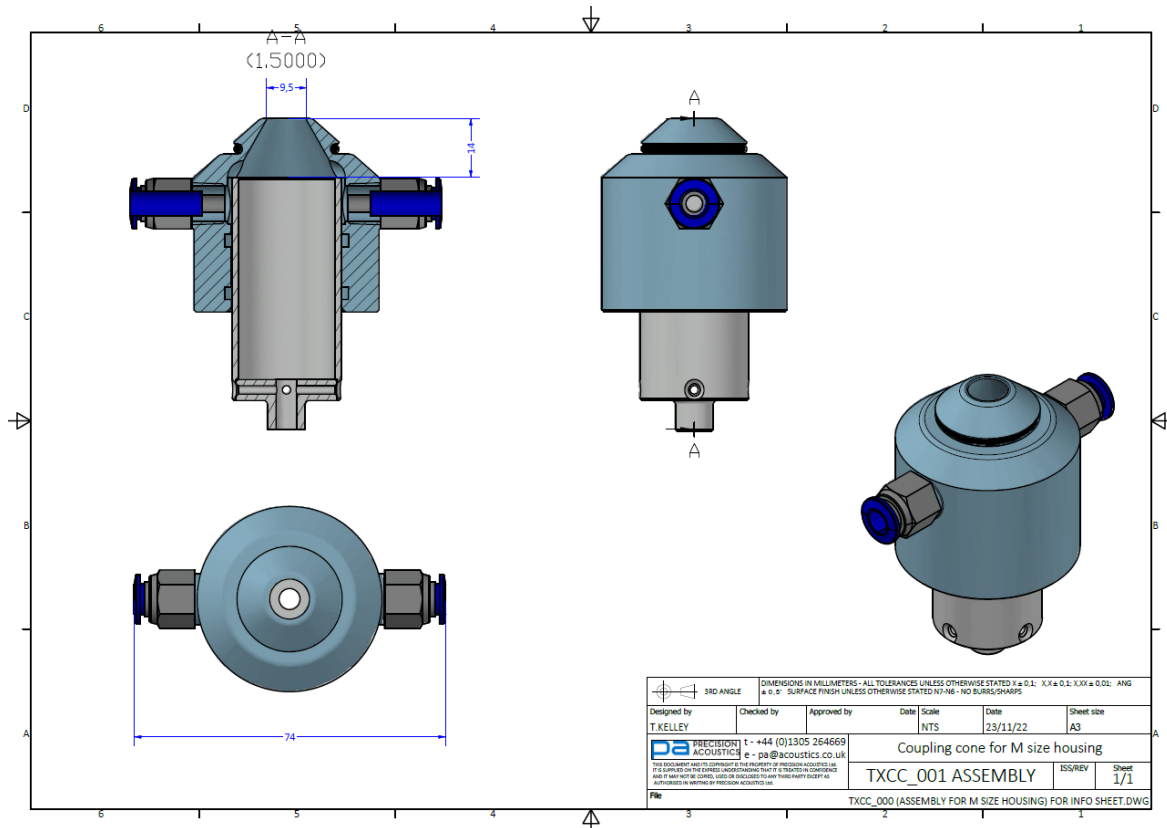

Figure 3. Coupling cone assembly (incl. transducer) for TXH-1-19 and TXH-5-19
- Figure 3. Coupling cone assembly (incl. transducer) for TXH-1-19 and TXH-5-194